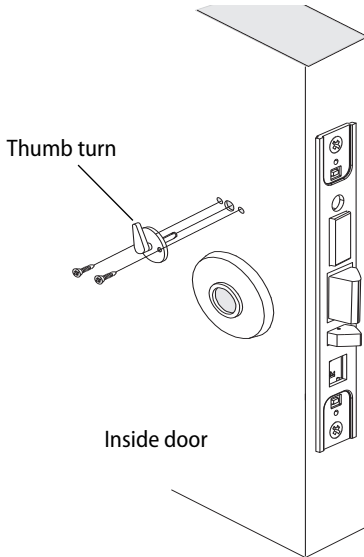

Figure 9 Installing the thumb turn
- 2 Install the thumb turn using the two screws provided. See Figure 9.